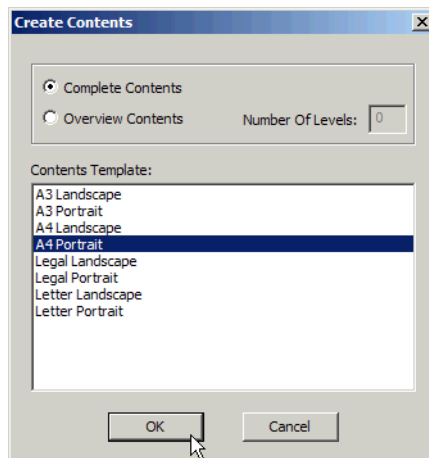

Figure 240. Create Contents Dialog
- in the complete (detailed) contents diagram, created according to Figure 240.
User invoke creation or update of a contents diagram by the **File > Create Contents** command, see Figure 240, and you open an already existing contents diagram by the **File > Open Contents** command.